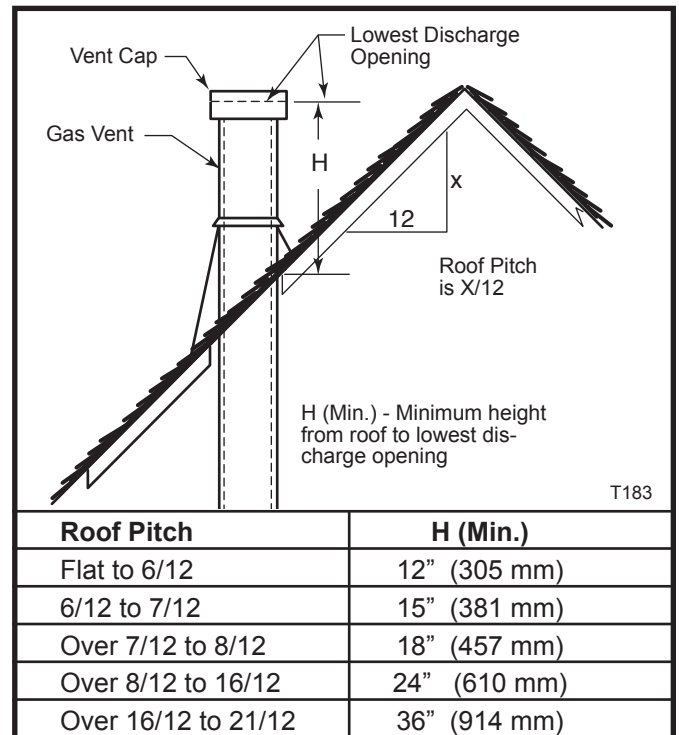

Fig. 28 Vertical termination location.
- The minimum height of the vent above the highest point of penetration through the roof is 2' (610 mm). (Fig. 28)